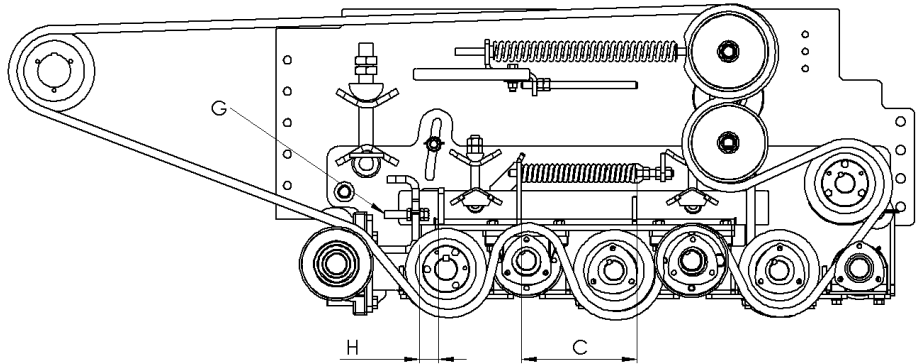

Figure 7-22: Grabroll Spacing Adjustment
- 3. Adjust bolt (G) shown in figure 7-22, to change the gap between smooth grabrolls and the scrolled grabrolls.
- 4. Readjust rock trip spring compression (C) to 8.5 in. (21.7 cm).